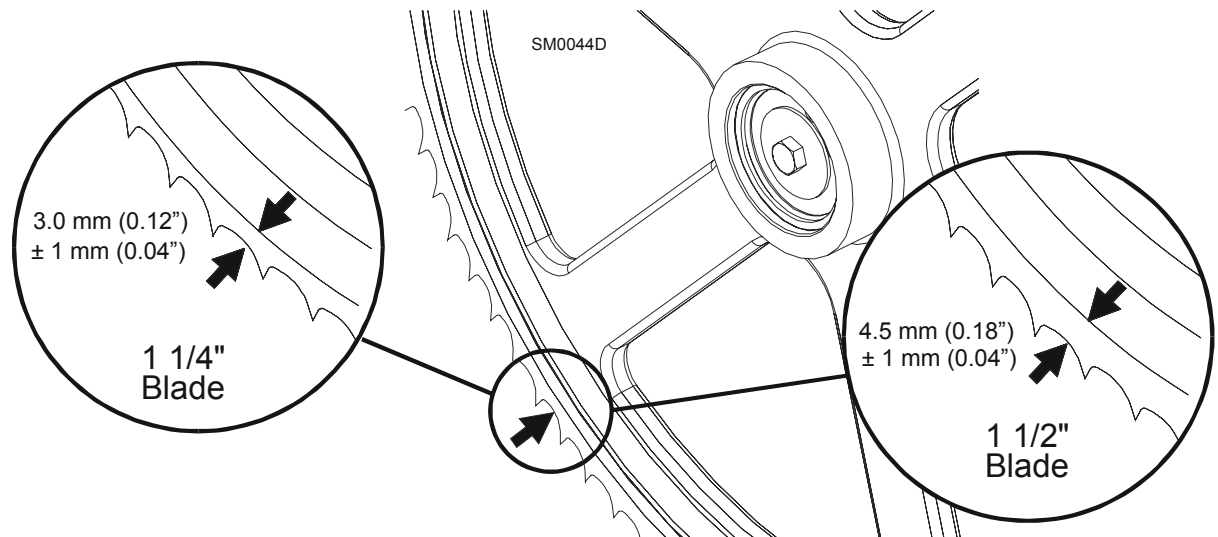

**FIG. 5-17**
**See Figure 5-17.** Use the vertical adjustment screws to adjust the idle-side blade wheel. To tilt the wheel up, loosen the bottom adjustment screw one quarter turn. Loosen the jam nut on the top adjustment screw and tighten the screw. Tighten the top and bottom jam nuts.